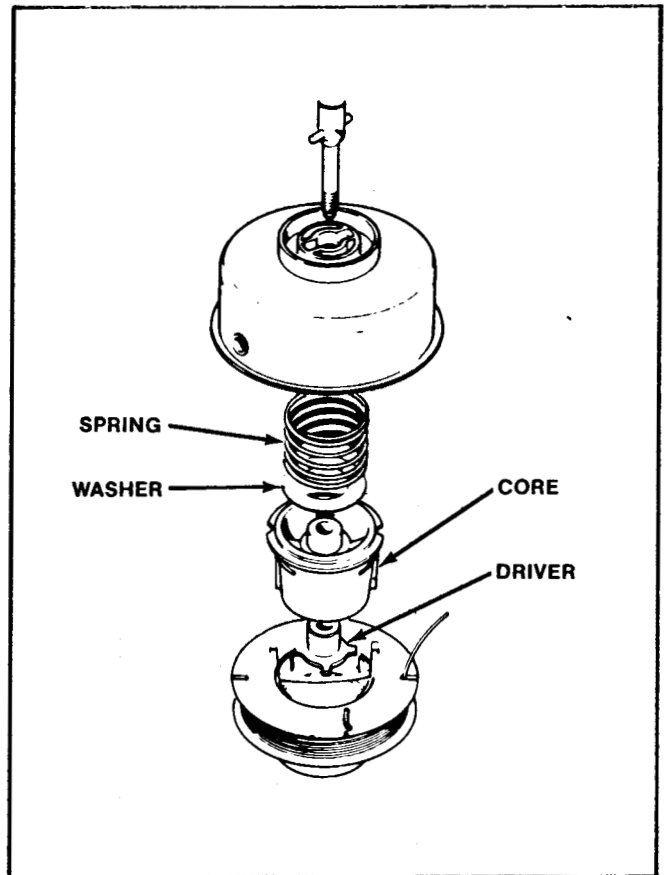

Figure 158
2. Center the spring on the drive shaft and then place the washer, driver and core onto the shaft as an assembly. See Fig. 158.